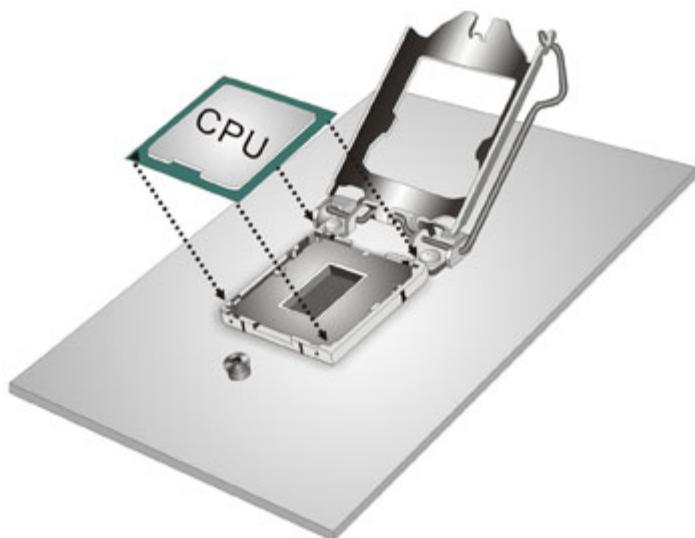

Figure 4-3: Insert the Socket LGA1151 CPU
- Step 7: Insert the CPU.** Gently insert the CPU into the socket. If the CPU pins are properly aligned, the CPU should slide into the CPU socket smoothly. See **Figure 4-3.**